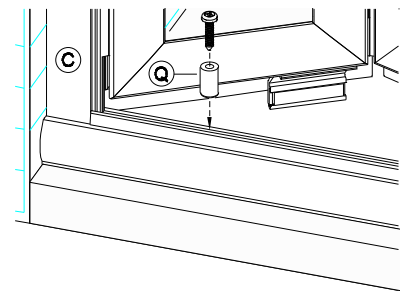

figure 9
14. The purpose of Door Stop (Q) is to prevent the Door Panels from hitting upon themselves. Using the pre-drilled pilot hole in the Guide Track's bottom, secure Door Stop (Q) to the Guide Track with one(1) Door Stop Screw (R) as shown in fig 9.